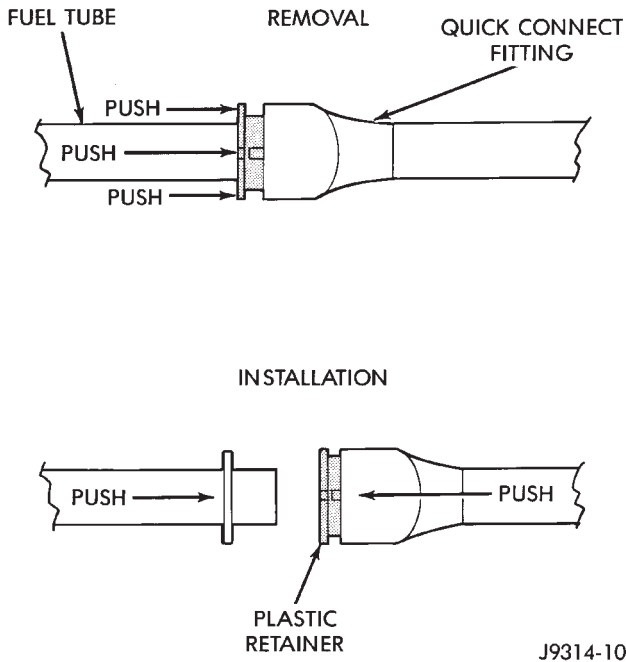

Fig. 19 Plastic Retainer Ring Type Fitting
This type of fitting can be identified by the use of a full-round plastic retainer ring (Fig. 19) usually black in color.
- (1) Perform fuel pressure release procedure. Refer to Fuel Pressure Release Procedure in this section.
- (2) Disconnect negative battery cable from battery.
(3) Clean fitting of any foreign material before disassembly.
(4) To release fuel system component from quick-connect fitting, firmly push fitting towards component being serviced while firmly pushing plastic retainer ring into fitting (Fig. 19). With plastic ring depressed, pull fitting from component. **The plastic retainer ring must be pressed squarely into fitting body. If this retainer is cocked during removal, it may be difficult to disconnect fitting. Use an open-end wrench on shoulder of plastic retainer ring to aid in disconnection.**
(5) After disconnection, plastic retainer ring will remain with quick-connect fitting connector body.
(6) Inspect fitting connector body, plastic retainer ring and fuel system component for damage. Replace as necessary.
(7) Prior to connecting quick-connect fitting to component being serviced, check condition of fitting and component. Clean parts with a lint-free cloth. Lubricate with clean engine oil.
(8) Insert quick-connect fitting into component being serviced until a click is felt.
(9) Verify a locked condition by firmly pulling on fuel tube and fitting (15-30 lbs.).
(10) Connect negative battery cable to battery.
(11) Start engine and check for leaks.